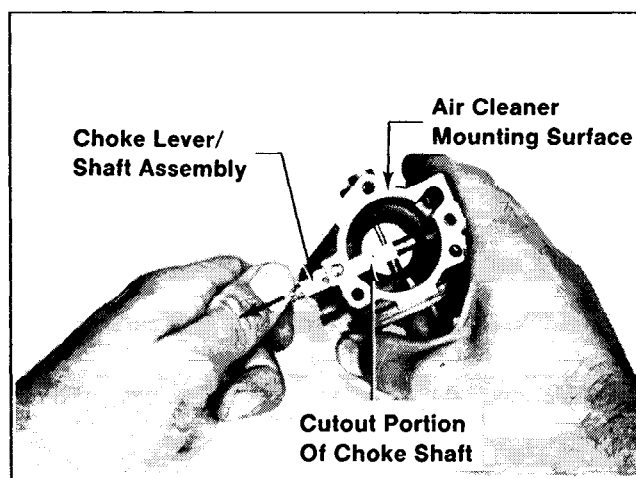

Figure 6-26. Removing Choke Lever/Shaft.
4. Rotate the choke shaft until the cutout portion of shaft is facing the air cleaner mounting surface (refer to Figure 6-26). Place the carburetor body on work bench with choke side down. Remove the choke lever/shaft assembly from carburetor body; the detent ball and spring will drop out.